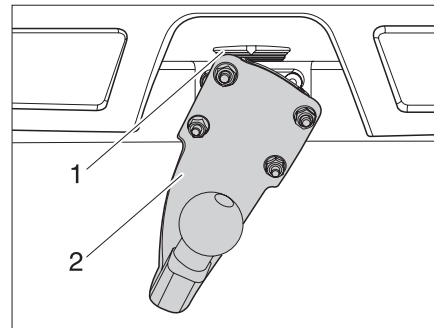

Fig. 1 Tow coupling
- ▶ Set the tow coupling (Fig. 1,2) at an angle of 90° to the latch (Fig. 11).
- ▶ Swivel the tow coupling (Fig. 1,2) downwards until the latch (Fig. 1,1) latches in.
- ▶ Swivel the tow coupling (Fig. 1,2) 90° to the left.
- ▶ Release the latch (Fig. 1,1).
- ▶ Remove the tow coupling (Fig. 1,2)